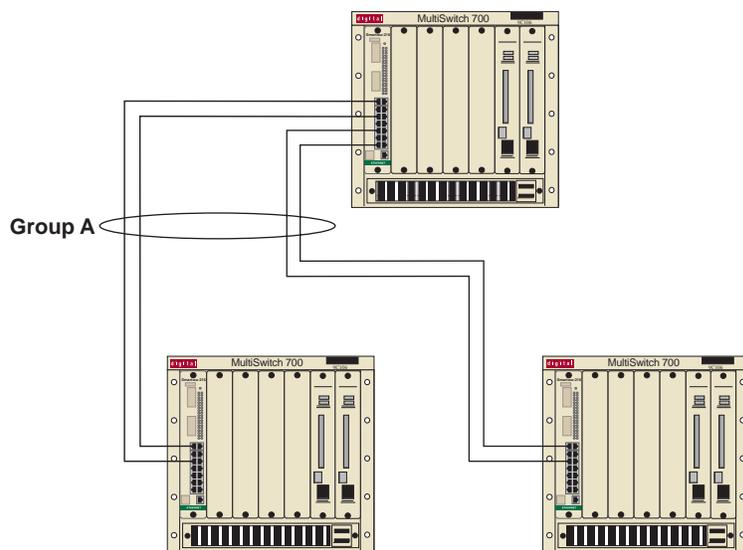

Figure 2-1. ILLEGAL CONFIGURATION (Example 1)
8. The same SmartTrunk group **cannot** be split onto two separate modules (see Figures 2-1 and 2-2).